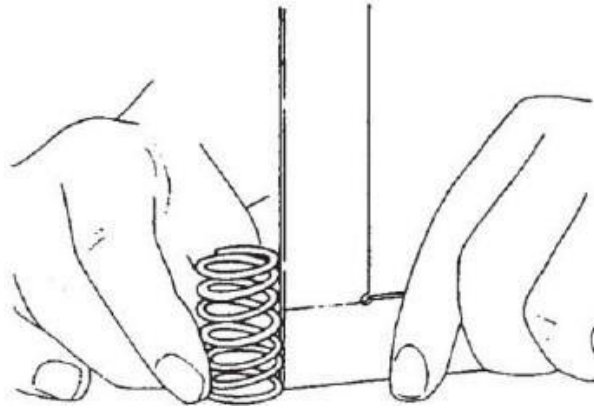

Figure 64. Valve Spring Squareness Measurement
4. Use a flat surface and a square to check each spring for squareness (Figure 64). See Valve Spring specification chart for the service limit.